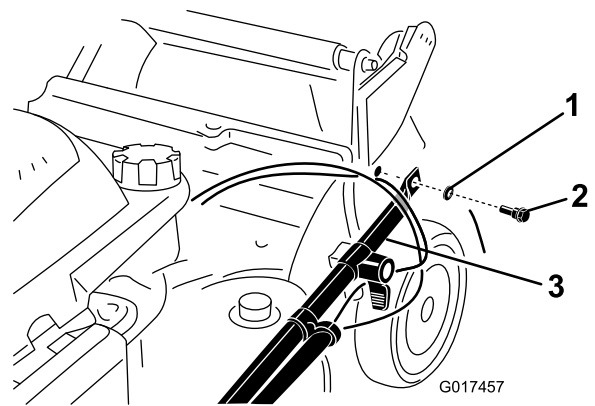

Figure 4
2. Attach the handle ends to the machine housing with 2 washers and 2 handle bolts (Figure 4), but do not tighten the handle bolts.
**Important:** Route the cables to the *outside* of the handle (Figure 4).